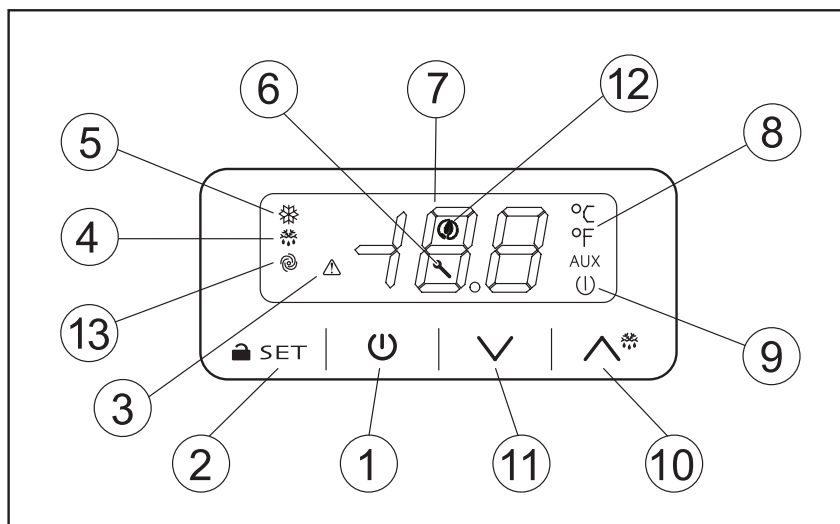

Fig.3
9.1 Description of the controls and buttons (Fig. 3)
Startup sequence (fig.3).
► Push the ON/OFF key (1) for 4 seconds	The display will turn on and show the table temperature
9.2.2 Shutdown methods (fig.3)
► Push the ON/OFF key (1) for 4 seconds	The display will turn off and the current presence icon (9) will turn on.
9.2.3 Temperature setting (fig.3)
9.2.4 Automatic and manual defrost (Fig. 3)
9.2.5 Keyboard lock (fig.3)
9.2.6 Alarms and signals (fig.3)